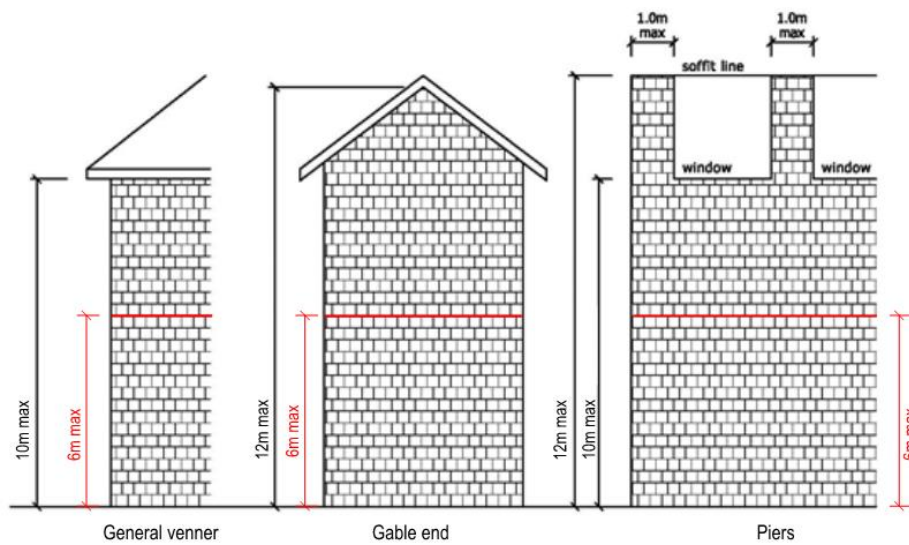

Figure 1 - Maximum Veneer Heights for three-storey stack bond construction
- Maximum veneer height of 10.0m for straight vertical panels and 12.0m to the apex of a gable or a pier as defined in this document, in accordance with Figure 1.